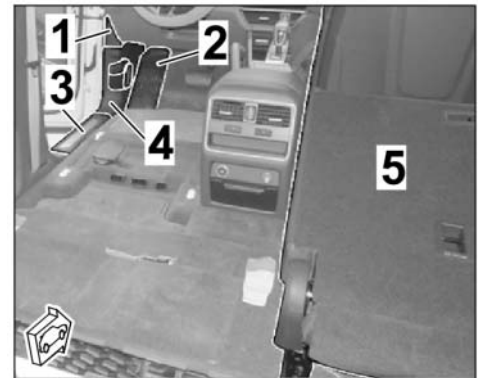

Figure 9
1.6 Expose the A-pillar area (side) ⇒ *Figure 9*